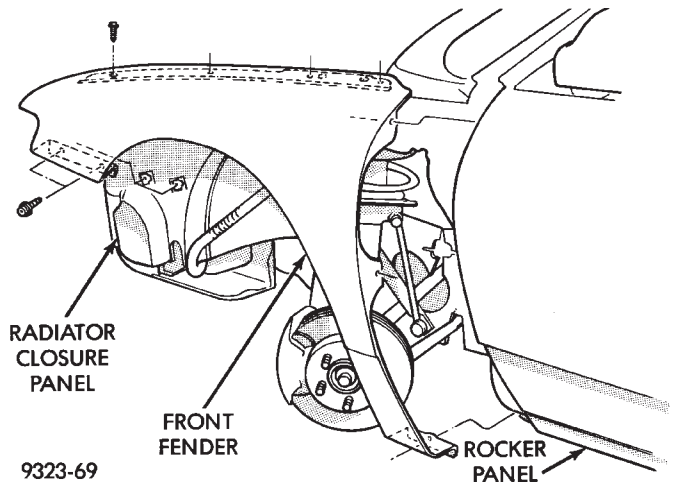

Fig. 11 Fender
(1) Remove headlamp assembly. Refer to Group 8L, Lamps, for proper procedures.
(2) Remove front bumper fascia as necessary to clear removal path of front fender. Refer to Group 13, Bumpers and Frame, for proper procedures.
(3) Remove bolt holding fender to rocker panel.
(4) From inside door opening, remove bolts holding fender to hinge pillar brackets.
(5) Remove bolts holding fender to radiator closure panel.
(6) From inside engine compartment, remove bolts holding fender to inner wheelhouse panel.
(7) Separate fender from vehicle (Fig. 11).